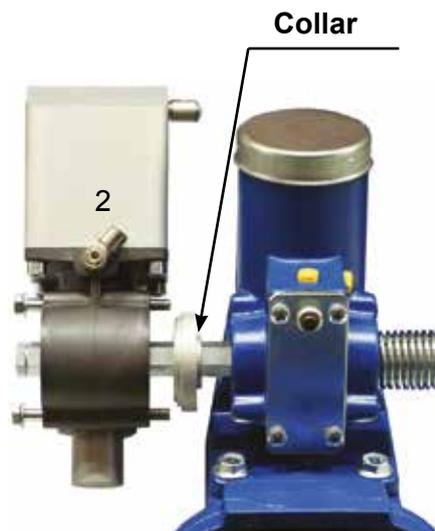

Figure 2
- Install the intermediate flange on the mechanism side so that the inner ring collar leans tightly against the mechanism control housing. Clean the control housing before installation as illustrated in **Figure 2**.
- Mount the servo cylinder on the mechanism with bolts as illustrated in **Figure 2**.